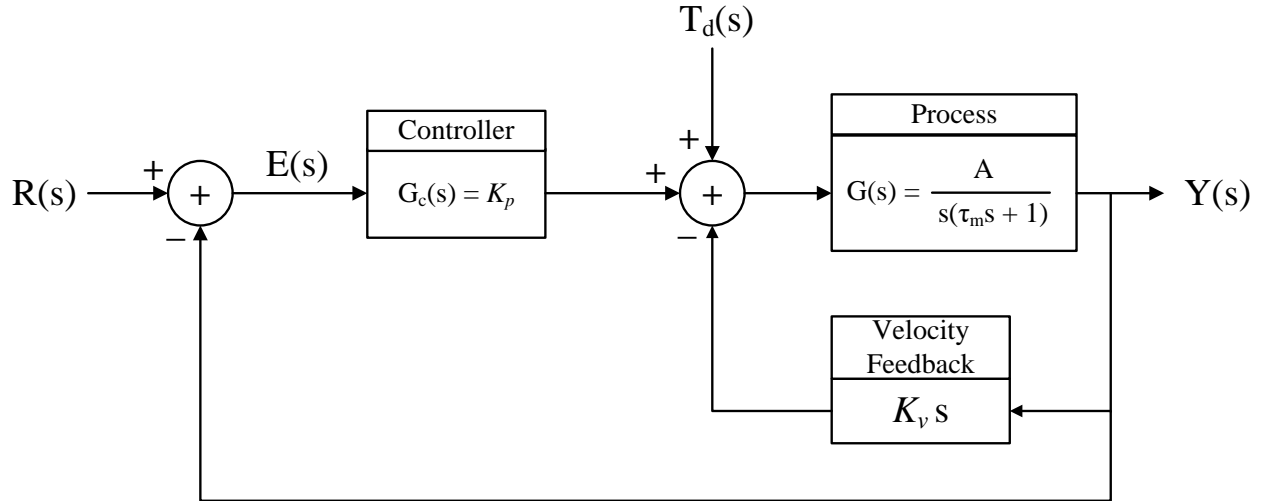
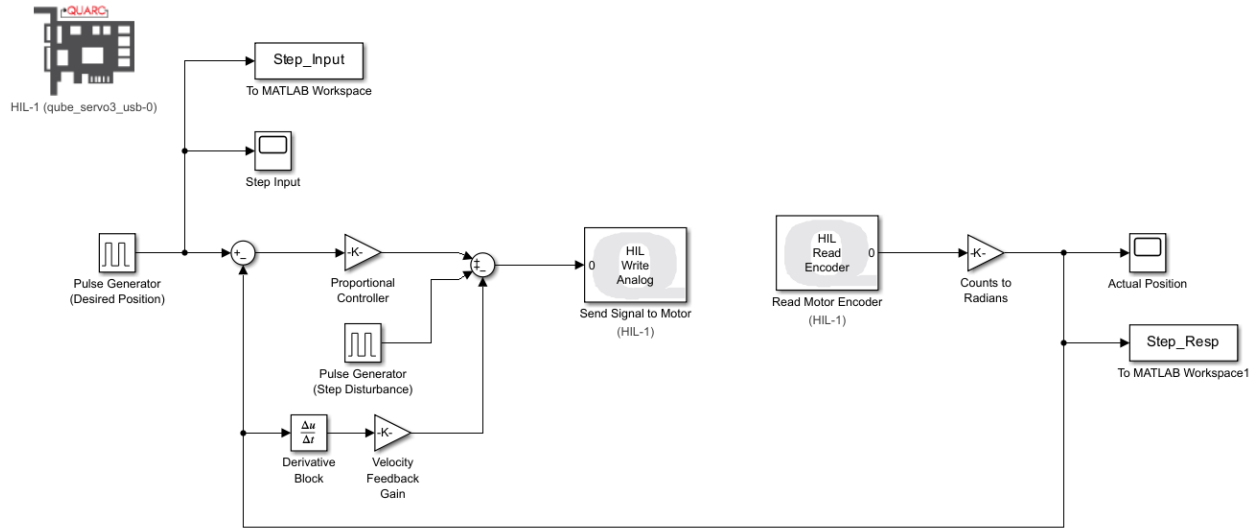

Figure 3: Proportional control of the DC servomotor with additional velocity feedback.
Figure 5: Target Simulink Model for Experiment 3.
The theoretical and experimental developments with the proportional controller in the previous sections revealed limitations of this controller for the servo-mechanism. The choice of only one design parameter K_p leads to a trade-off between competing design objectives of fast rise time, small error in response to a constant disturbance, and a small overshoot in the step response. Furthermore, the settling time is unaffected by the controller gain. To help alleviate these shortcomings in the proportional control of the servo-mechanism (DC motor), a velocity feedback loop is added to the system as shown in Figure 3. Unlike in a conventional *Proportional-Derivative* (PD) controller where the differentiator acts on the error $e(t) = r(t) - y(t)$, the derivative is only applied to $y(t)$ as can be seen in Figure 3. In the case of a step reference $r(t)$, this modified controller arrangement avoids generating an unbounded control signal due to $\dot{r}(0)$ being unbounded. It can be noted from Figure 3 that the velocity feedback path has a gain K_v which determines the contribution of velocity feedback. Thus, now we have two design parameters, K_p and K_v . In the pre-lab questions that follow, we will investigate whether having these two design parameters can aid us in achieving multiple design objectives simultaneously.
Pre-Lab Question 11 (5 marks) *Using the block diagram in Figure 3, show that the total output response to the reference and disturbance inputs is given by:*
This part corresponds to Section 3 and Figure 3. Hopefully, by now you would have realized that it is impossible to achieve competing design requirements with just one parameter, i.e., through just the proportional controller gain K_p . In this experiment, you will add a *velocity feedback component* to your feedback control system and then select the controller gains K_p and K_v to simultaneously satisfy the following two design requirements:
- iii) Follow Figure 3 to build the required feedback control system, with velocity feedback, in the Simulink environment. When you are done building your model by following Figure 3, it should look like the target model shown in Figure 5.